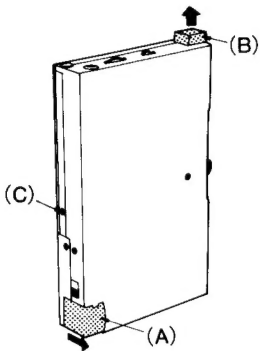

Fig. 1
## HOW TO REMOVE THE UPPER CABINET ASS'Y (Shown in Fig. 1~6)
1. Remove the battery cover (A)×1. (Fig. 1)
2. Remove the separate microphone (B)×1. (Fig. 1)
3. Take out the screws (C)×2 (1.1×1.4)mm, and press the STOP/EJECT button to open the cassette lid. (Fig. 1, 2)